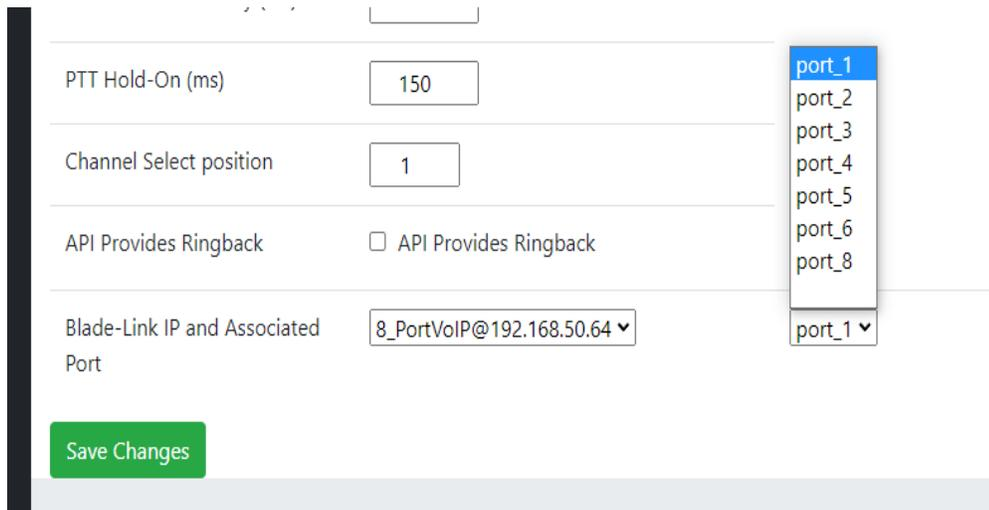

Figure 6-3: The information of the server Blade will be populated and will have Port 1-7 and Port 8 as options to choose from.
11. Under “Blade-Link IP and Associated Port” the server Blade will be populated. Since it is an 8-port Blade, there will be more options for the Ports as seen in Figure 6-3. In this example, Port 1 was chosen.